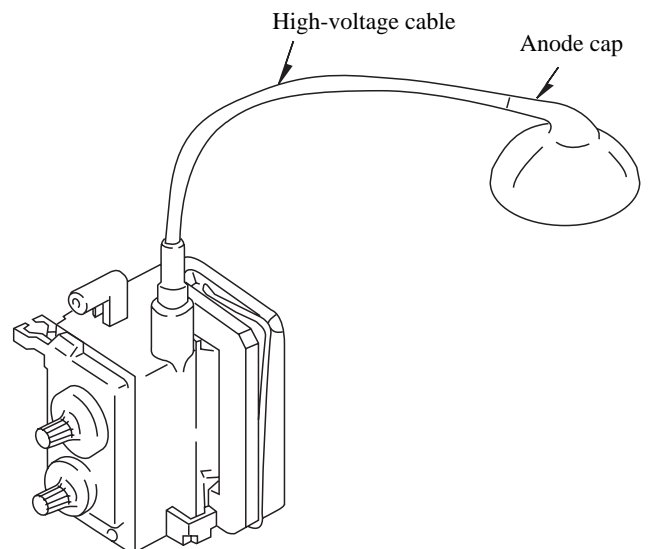

Fig. 3
- (3) Eliminate twisting, etc. of the high-voltage cable and arrange it so that no twisting occurs. (See Figure 3)